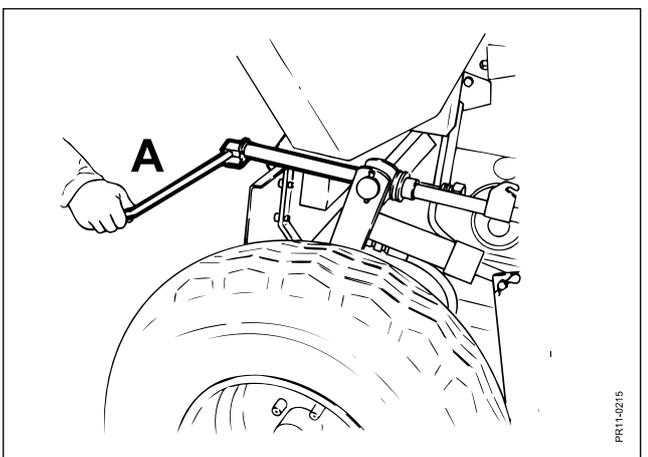

Fig. 3.15
- Fig. 3.15** Tighten the relief springs by the spindle **A**, so that the maize unit presses with a maximum of 30 kg on the ground.